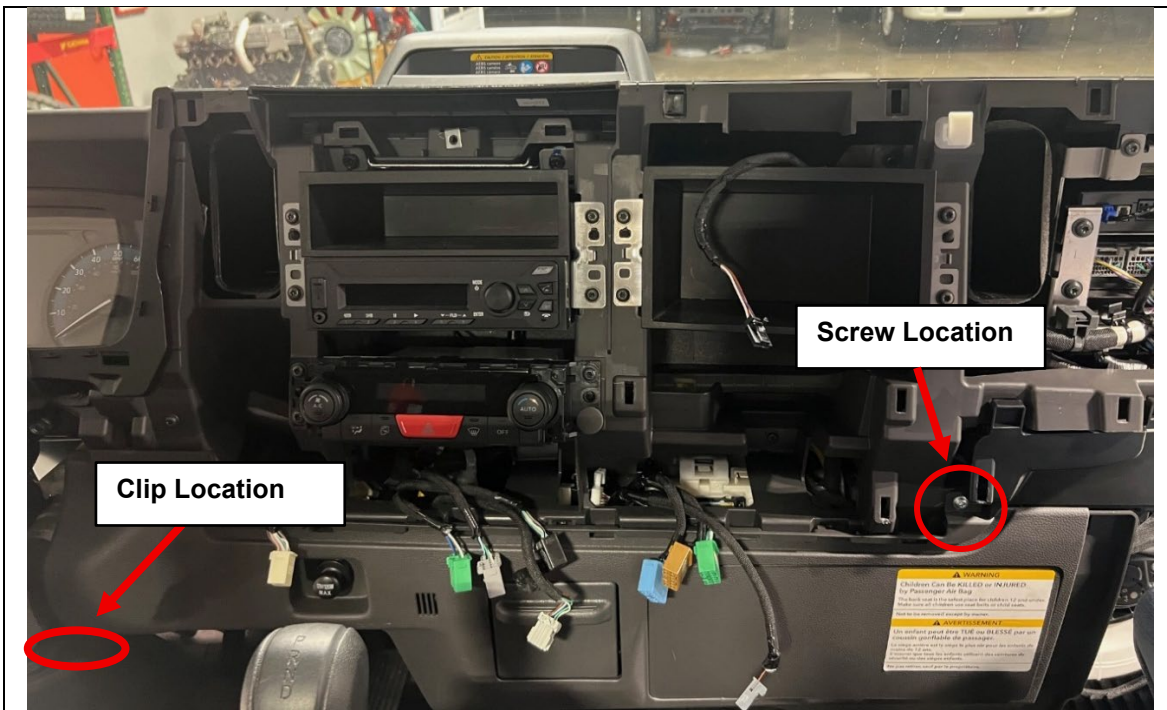

Figure 31
37. Install the lower instrument panel under cover and ensure all the clips are engaged. Install the screw and the plastic clip. (See Figure 31)